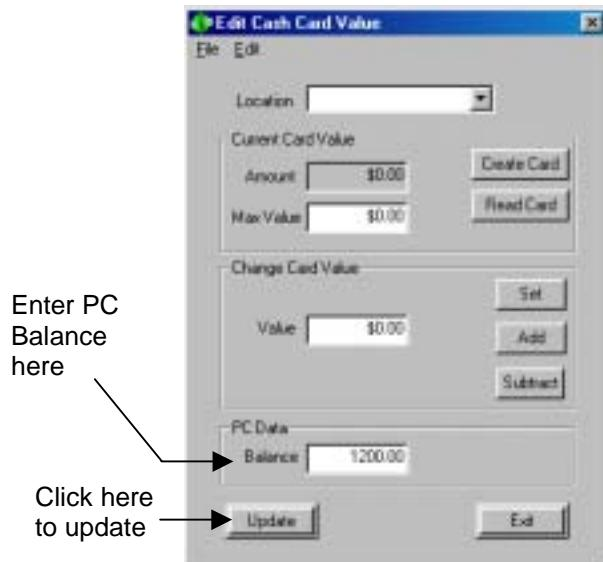

Figure 12.2 Changing the PC Balance
2. Enter a value in the Balance field (Figure 12.2).
3. Click the update button to save value (Figure 12.2).